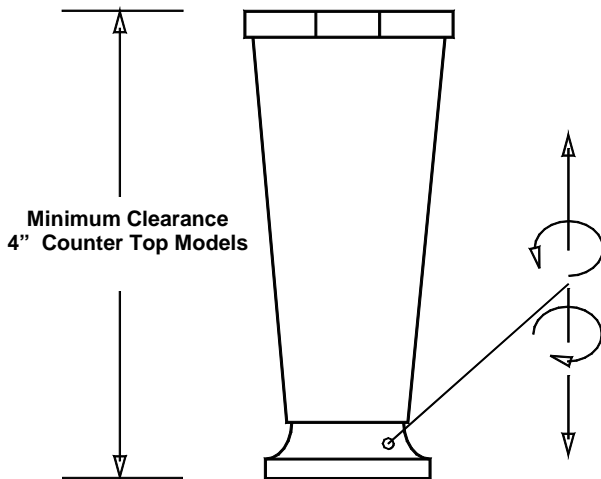

Fig. 1
2. Place the machine in the desired location and level the unit by turning the bottom part of each leg clockwise or counterclockwise (Fig. 1). The machine MUST be level to operate properly.